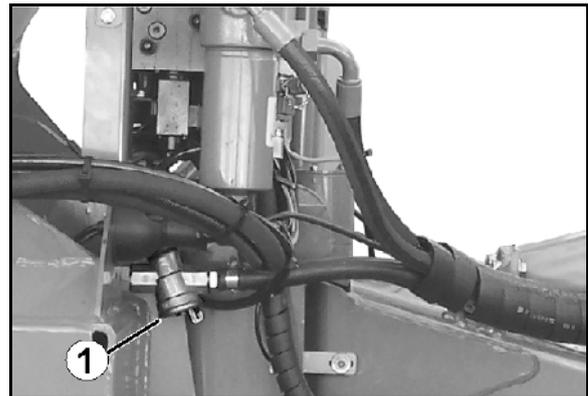

Fig. 126
1. Press together the locking piece (Fig. 126/1) on the two lugs.
4. Press together the locking piece (Fig. 126/1) on the two lugs.